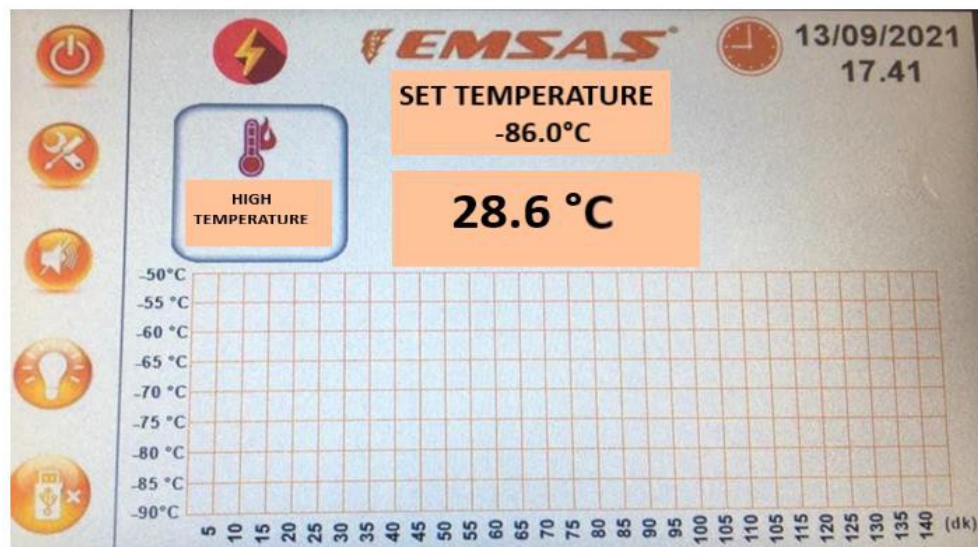

FIGURE 3
- After entering the password, the main screen in FIGURE 3 will appear.